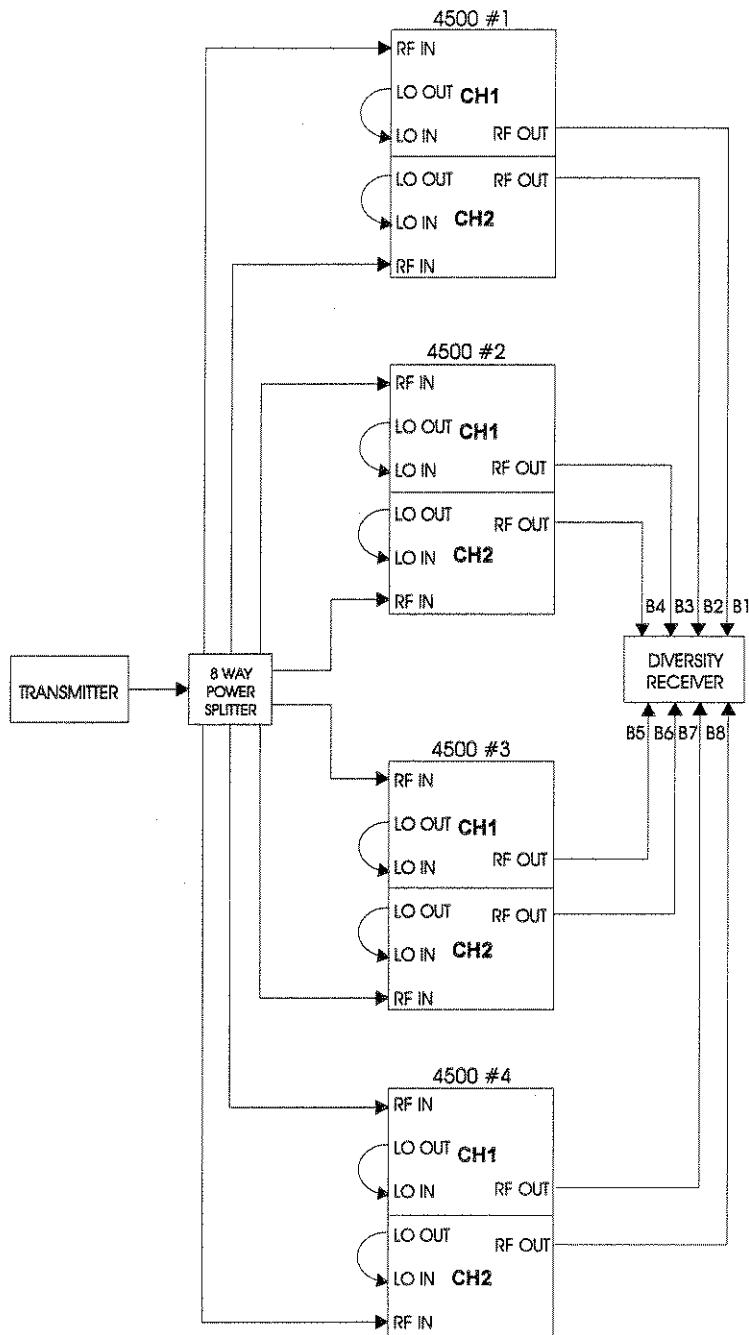

Figure 1-9. 8 Branch Diversity Configuration
In the 8 branch diversity configuration a RF transmitter is connected to the 8 channel (branch) inputs provided by the four 4500 units with an 1 to 8 power splitter as shown in Figure 1-9. Each one of the outputs from these channels provide the input signal to one of the 8 available ports of a 8 branch diversity receiver.
1. For each 4500, install a short cable from the N type connector labeled "CHANNEL 1 LO OUT" to the "CHANNEL 1 LO IN" connector on the front panel of the TAS 4500 shown in Figure 1-9.